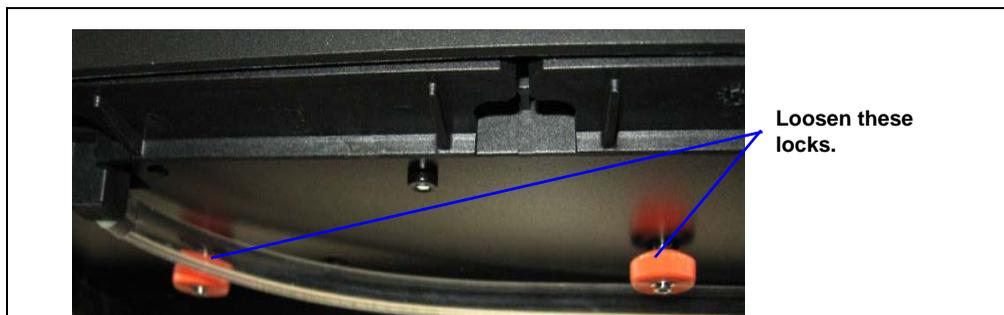

Figure B-1. Detector Shipping Locks
7. Loosen the two shipping locks on the bottom of the detector (see Figure B-1). These locks secure the detector optics.